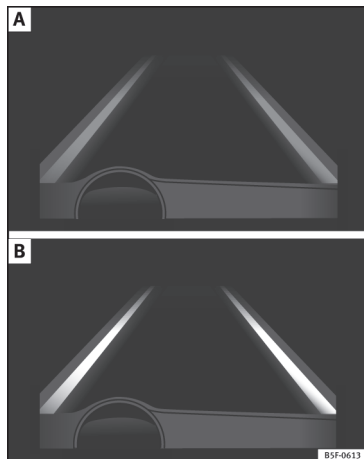

Fig. 203 On the instrument panel display: Indication on the Lane Assist system display (example 1).
- The system is active, but not available, either because the minimum speed has not been reached or because the lane lines are not recognised »» Fig. 203 A.
- The system is active and available, both lane lines are recognised. The steering angle is not being corrected at this moment »» Fig. 203 B.